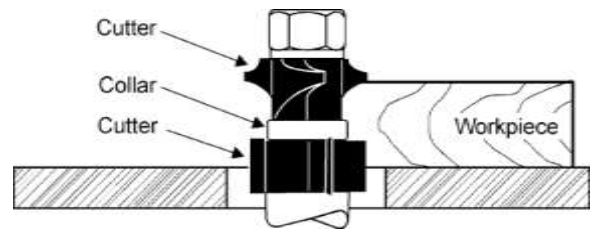

Fig. 39
- Using the collar between the two cutters has the advantages and disadvantages of the first two procedures, and is frequently used where both edges of the work are to be molded, Fig. 39.